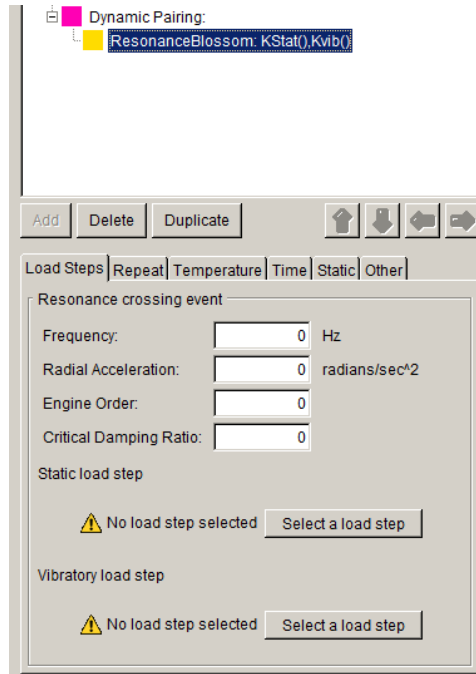

Figure 6.5.31 Resonance blossom parameters.
- Resonance Blossom – the load step associated with a static load step and a vibratory load step are specified along with several parameters, Fig 6.5.31. One must specify the resonance frequency (in Hz), the radial acceleration or deceleration (in radians/sec2, this is assumed to be constant throughout the blossom), the engine order (number of forced excitations per rotation), and a critical damping ratio (dimensionless).